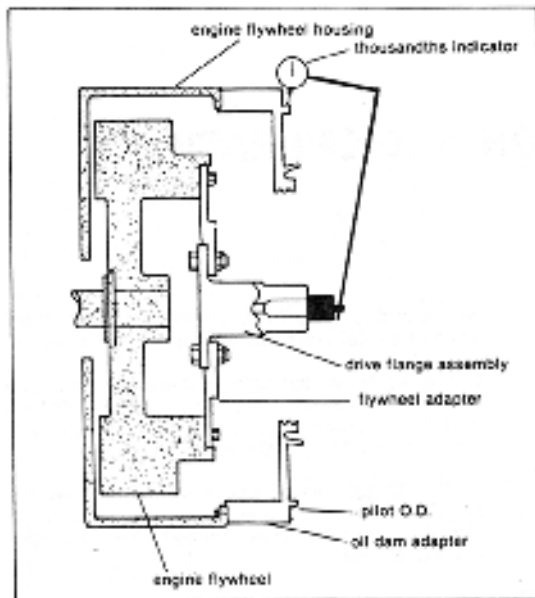

Figure 4. Dial Indicating Oil Dam Adapter Pilot O.D.
9. Dial oil dam pilot O.D. as shown in figure 4. record reading. Total indicator reading must not exceed .007 inch.